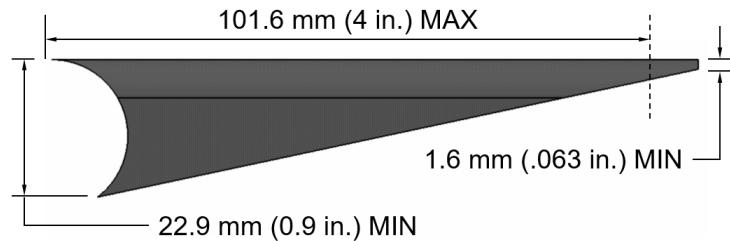

Figure B-47: Allowable Taper
- 3) Allowable cross section: Brackets shall have a "C" cross-section. The supporting gussets may be tapered as shown in Figure B-47, and shall be a minimum 22.9 mm (0.9 in) tall at the weld. Flat brackets are not permitted.